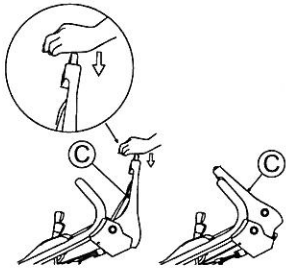

Fig. 2.
3 Push Blade lever (C) forward while pressing its yellow button. (See Fig. 2.) Then, the blade starts rotating.